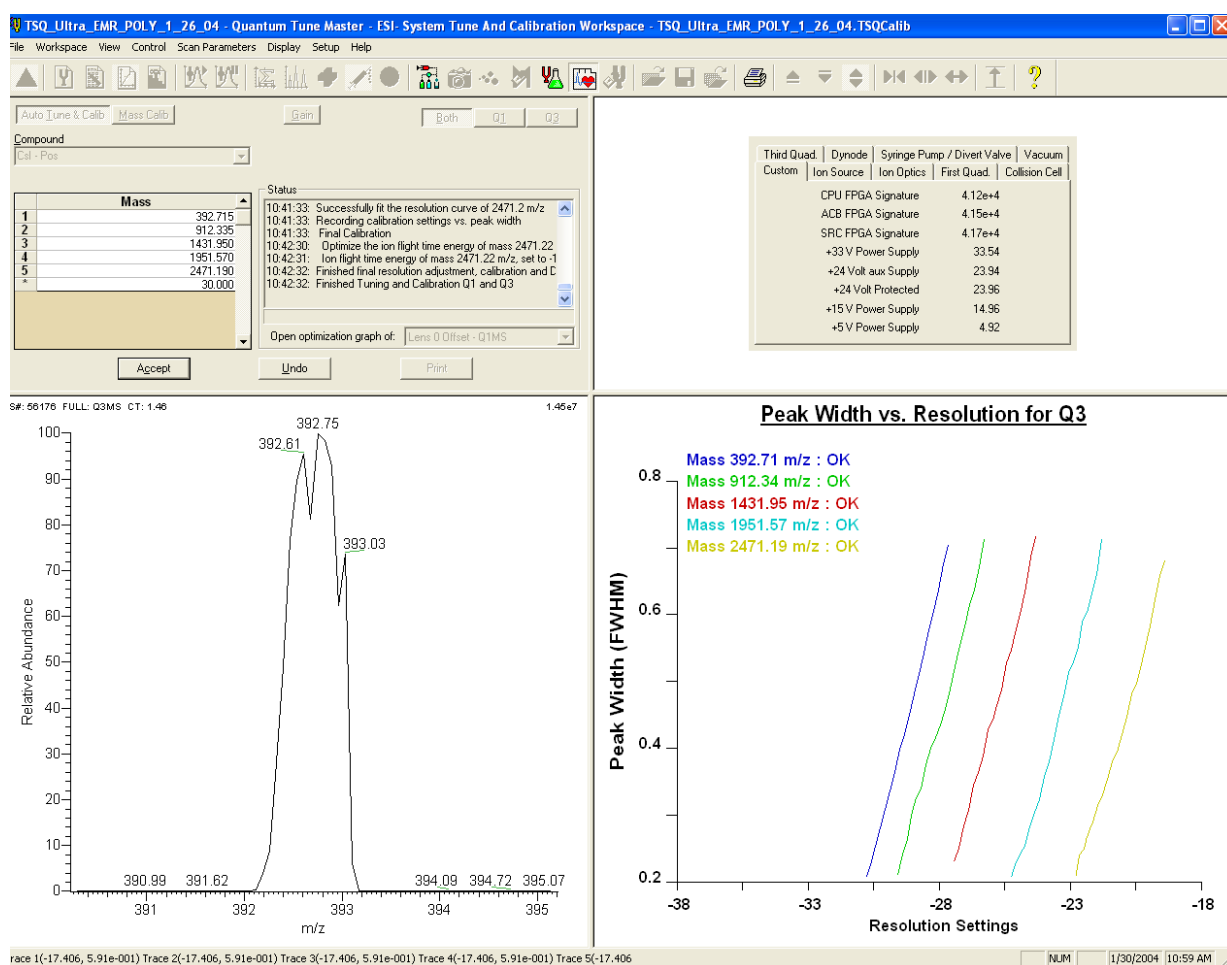

Figure 3-14. System Tune and Calibration workspace during an automatic tune and calibration
- The Status box displays real-time messages about the system tune and calibration so that you can monitor the progress of each sub-procedure. After a sub-procedure is complete, the result is reported (for example, whether it passed or failed). At the end of the entire procedure, it displays a summary. See Figure 3-14.